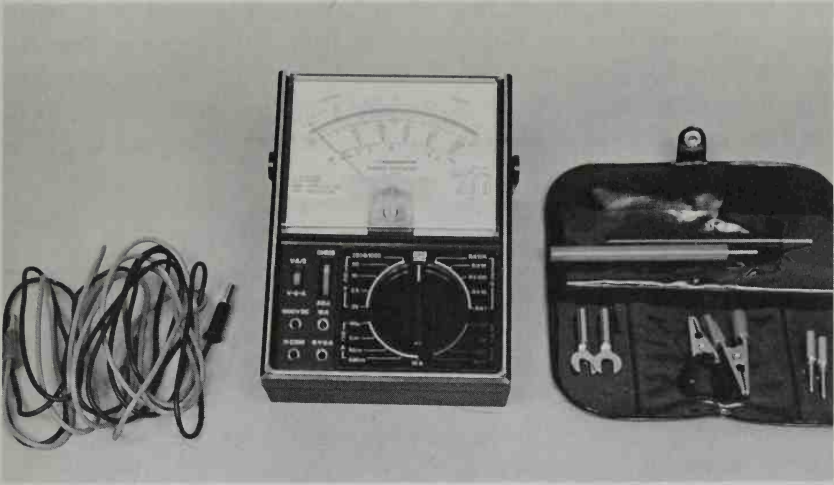

Figure 2-3 A typical VOM with test lead kit. VOM's range in price from about \$20 to well over \$100.
1. Multimeter or VOM (See Figure 2-3.)